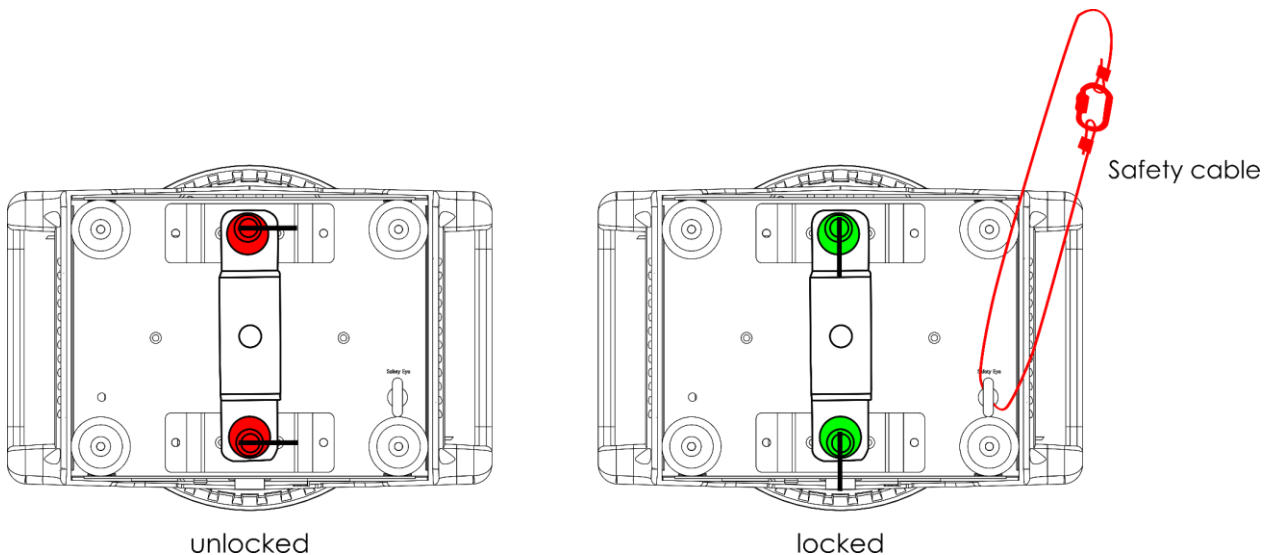

Fig. 10
- 02) Fasten the quick lock bracket, supplied with the device, on the **mounting holes for quick lock bracket (11)**, as shown in Fig. 10
- 04) Secure the device with a secondary suspension, for example a safety cable. Make sure that the secondary suspension can hold 10 times the weight of the device. If possible, the secondary suspension should be attached to a supporting structure independent of the primary suspension. Put the safety cable through the safety eye as shown in Fig. 10.